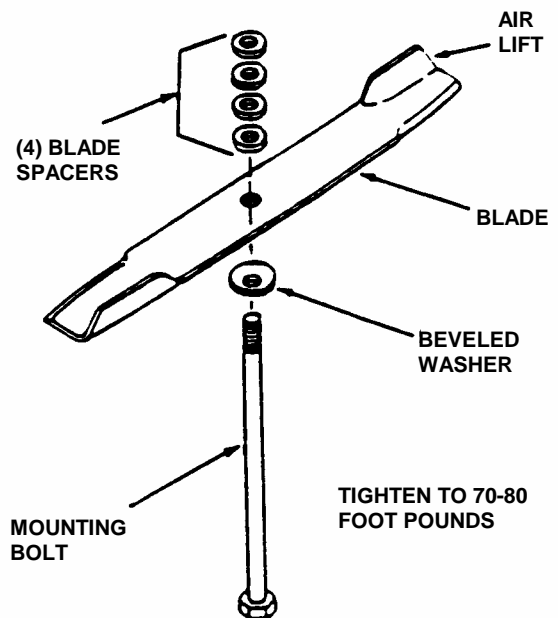

FIGURE 3.2
5. Check torque of blade mounting bolts. Torque to 70 to 80 ft. lbs. See Figure 3.2.